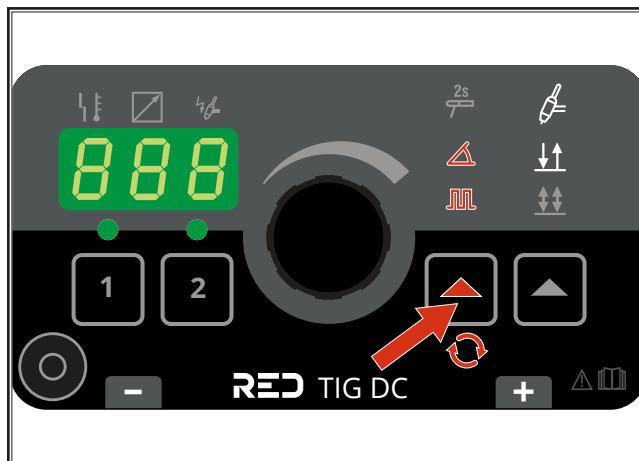

Fig. 8: Switching on pulses with or without slope
- ➔ If the Pulse function (with or without slope) is desired, switch it on as shown in Fig. 8.